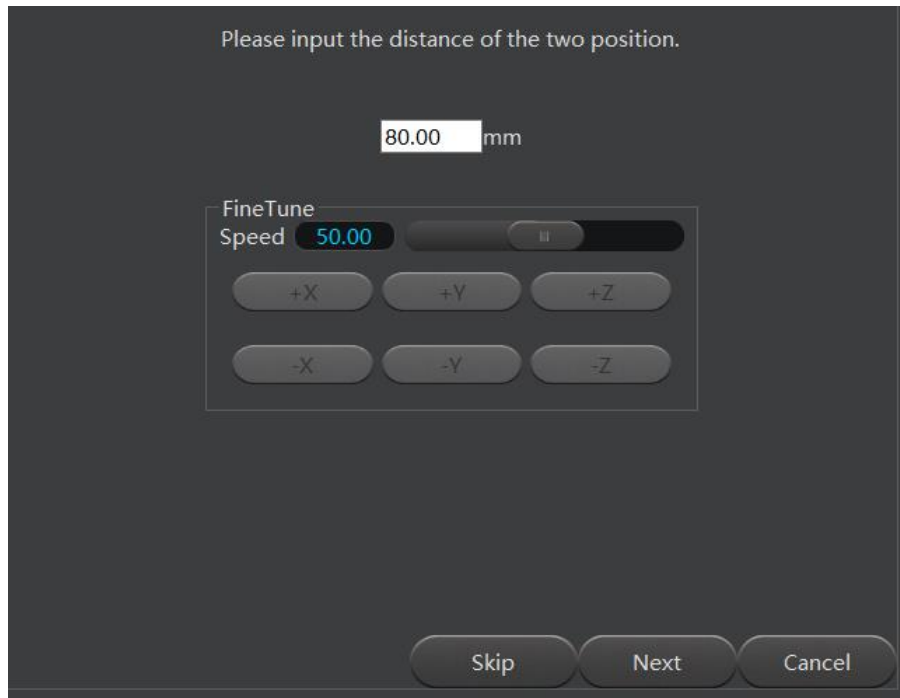

Figure 5.167 Set the distance between the two calibrated points
Step 7 Click **Next** and set the distance between the two calibrated points, as shown in Figure 5.167.